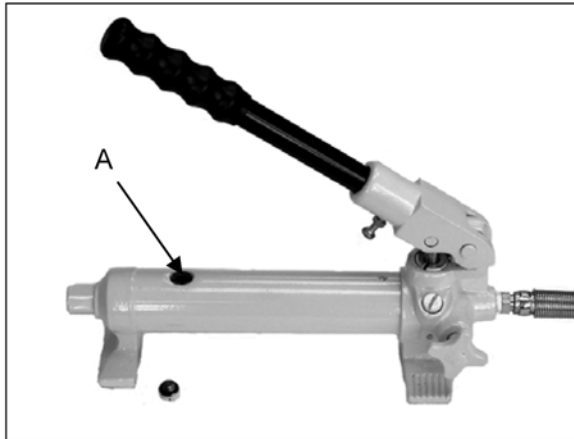

Figure 1
3. Place the pump unit on a level surface. Use a flat blade screwdriver to remove the oil-fill screw and seal from the top of the pump cylinder (A, Figure 1).